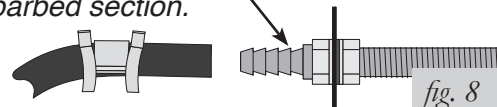

fig. 8
11. Slide air line clamp over the air line. Push air line onto fitting covering all barbs, use pliers to slide the air line clamp forward until it fully covers the barbed section (Figure 8).
8. Slide a clamp onto the air line and push the air line over the fitting, covering all the barbs. Use pliers to slide the air line clamp forward until it fully covers the barbed section (Figure 8).